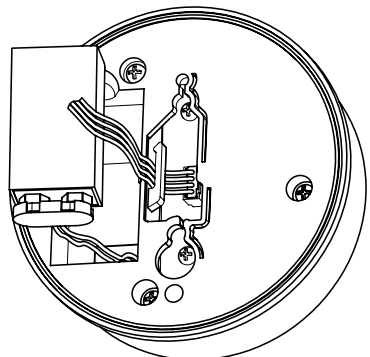

Fig. 2
2. Snap new battery into the connector clip, and slide it into the battery compartment top down so that the wires will not be pinched between the battery and the safe door. (Fig.2)